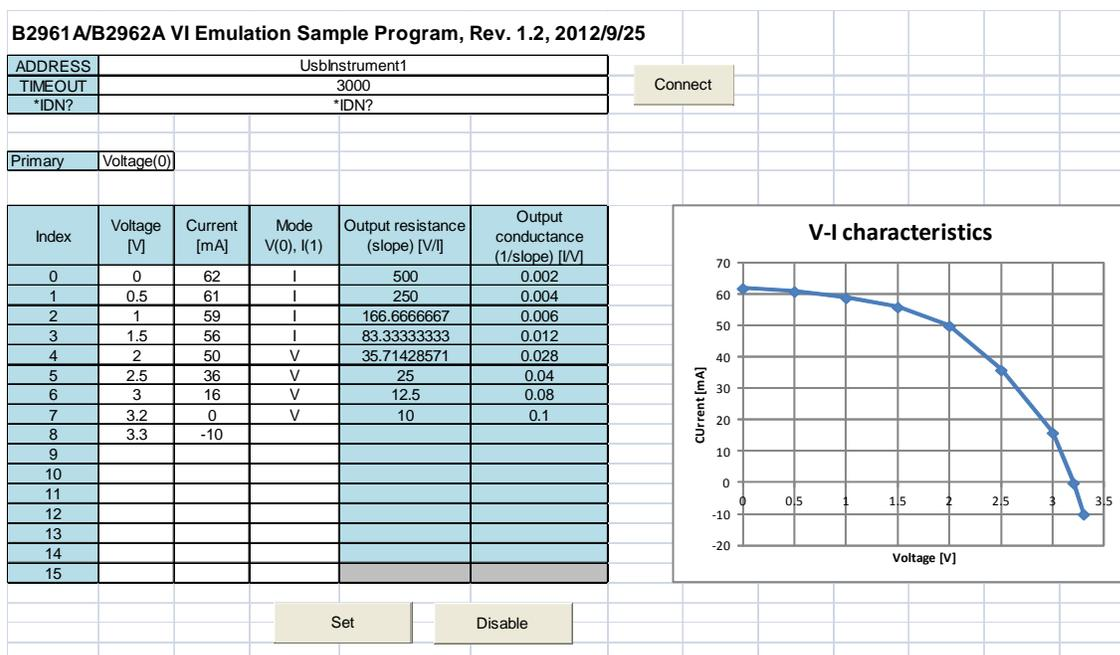

Figure 17 B2961A/B2962A VI Emulation Sample Program settings for I_{OH} emulation
- Primary source mode (B2961A/B2962A front panel Mode setting): voltage (V)
- V and I source values (in emulation table): See Voltage and Current columns in Figure 17.
- V/I mode (in emulation table): See Mode column in Figure 17.
Figure 17 shows the setup image when the VI Emulation Sample Program is used. The program is available from Agilent B2900 web site (<http://www.agilent.com/find/b2900a>). This program automatically calculates the output resistance and conductance, and displays the I-V characteristics.